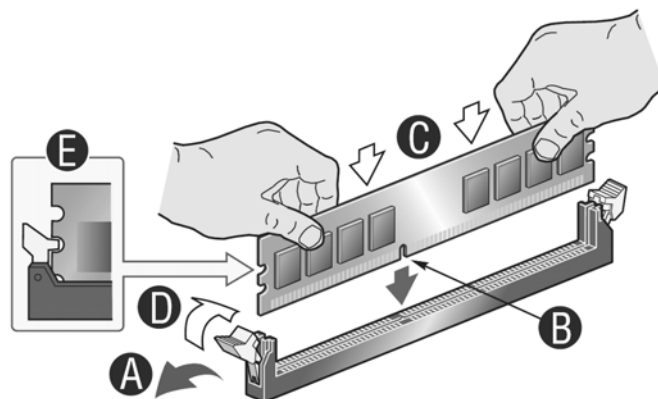

Figure 11. Installing Memory
5. Make sure the clips at either end of the DIMM socket(s) are pushed outward to the open position (Step “A” in Figure 11).
7. Position the DIMM above the socket. Align the small notch in the bottom edge of the DIMM with the key in the socket (Step “B” in Figure 11).
8. Insert the bottom edge of the DIMM into the socket (Step “C” in Figure 11).
9. When the DIMM is inserted, push down on the top edge of the DIMM until the retaining clips snap into place (Step “D” in Figure 11).
10. Visually check that each latch is fully closed and correctly engaged with each DIMM edge slot (Step “E” in Figure 11).